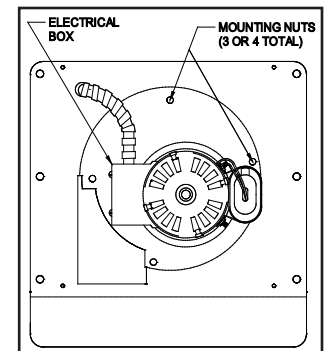

Figure 15
2. Open the electrical box on the motor and disconnect the conduit and wires from the motor. (See Figure 15)
1. Align holes in the circular cover plate with holes in the motor mount bracket on the motor assembly. (See Figure 15)